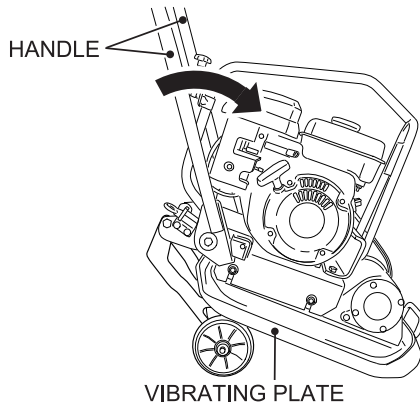

Figure 13. Tilting The Handle
1. Position the plate compactor so that the front end of vibrating plate touches the ground. Then, tilt the handle to the front until the wheel kit leaves the ground (Figure 13).